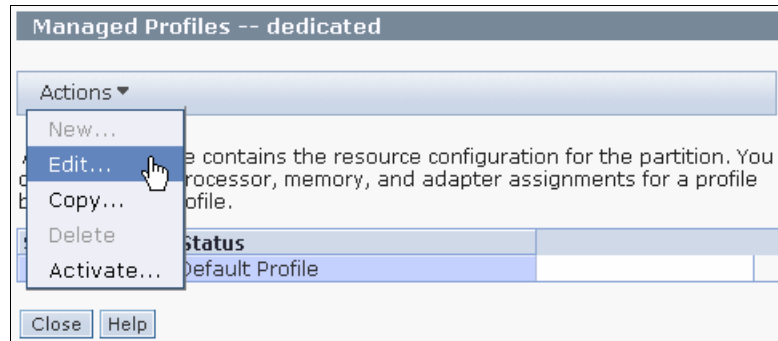

Figure 14-7 The Edit Managed Profile window
3. Select a profile and click **Actions** → **Edit** as shown in Figure 14-7.